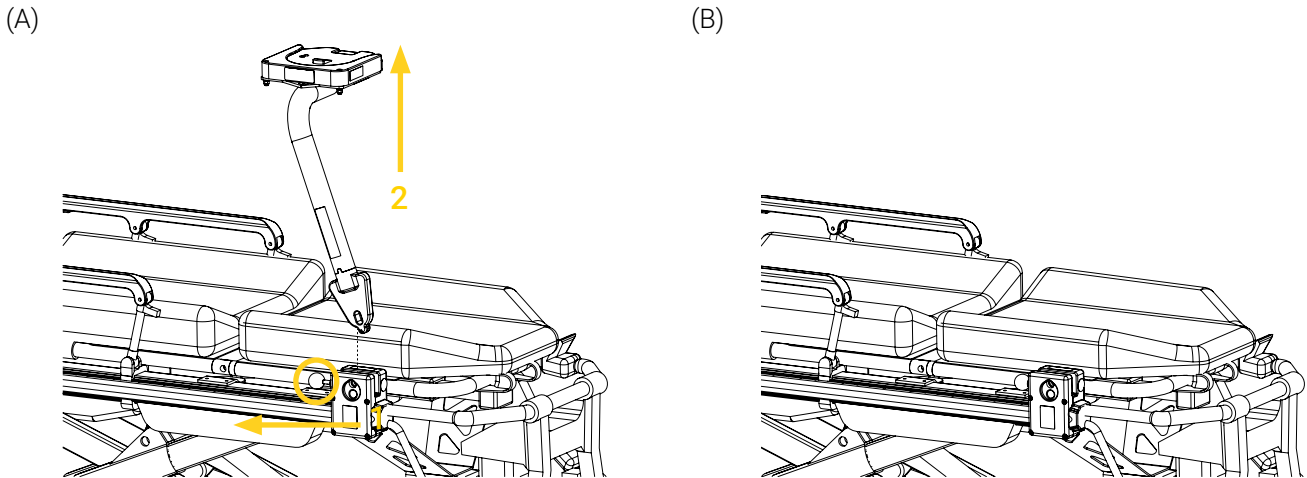

Figure 12: Removing the SAS 500 from the clamp block
3. Pull and hold the knob of the quick release mechanism of the clamp block (Figure 12 A), lift and remove the SAS 500 from the clamp block, then release the knob (Figure 12 B).